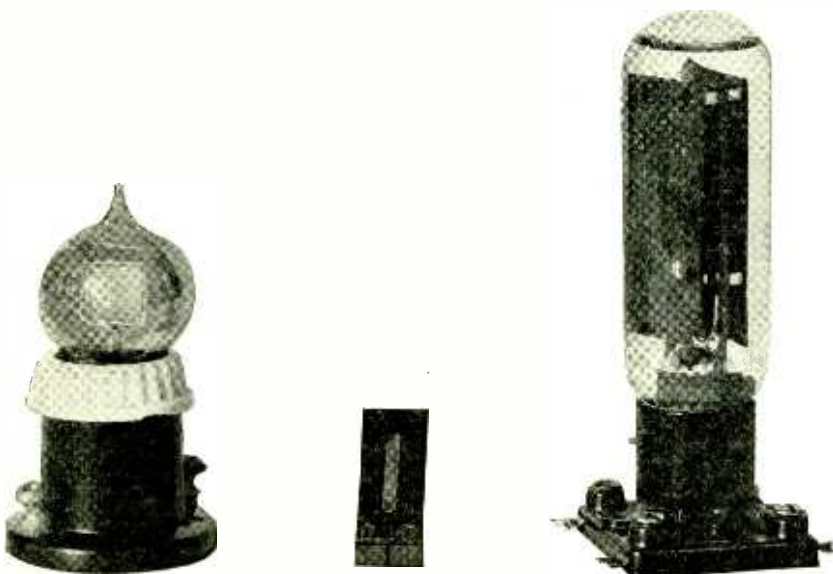

Fig. 1. Types of Light Sensitive Devices; on left, Potassium-Hydride Cell; in center, Selenium Cell; on right, Copper-Oxide Cell
The types of light-sensitive devices which are or have been used for this purpose may be classified as (1) photo-conductive, (2) photo-voltaic and (3) photo-electric cells. Grouped in this manner, each class represents different, although related, aspects of light-sensitive phenomena. The selenium, copper oxide, and alkali metal cells are, respectively, typical of each class, (See Fig. 1).